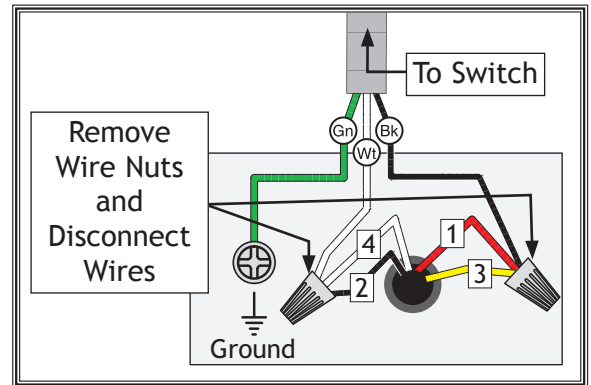

Figure 6. Inside motor junction box (motor pre-wired to 120V).
3. Open motor junction box, remove two wire nuts indicated in **Figure 6**, and then disconnect wires.